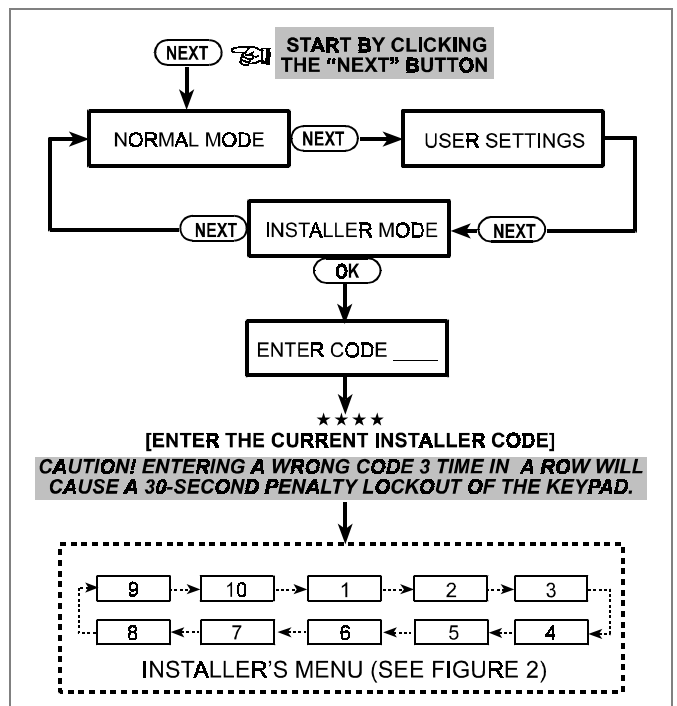
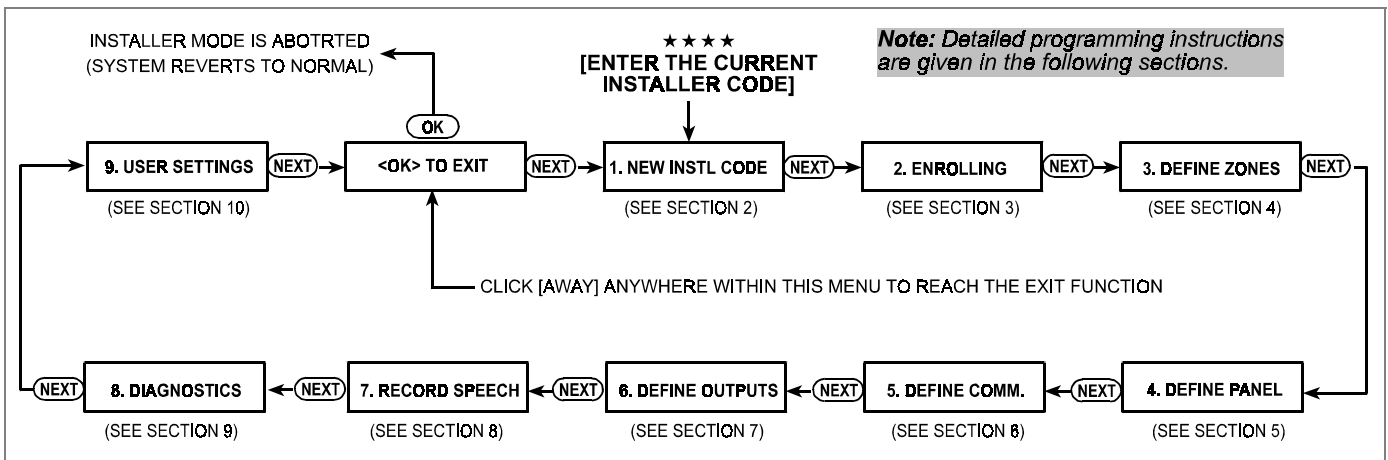

Figure 1. Gaining Access to the Installer's Menu
Figure 2. Navigating within the Installer Menu
To access the installer's menu and navigate within it, refer to Figures 1 and 2 and proceed as follows:
**Note:** At this point refer to Figure 2, that takes over where Figure 1 left off.